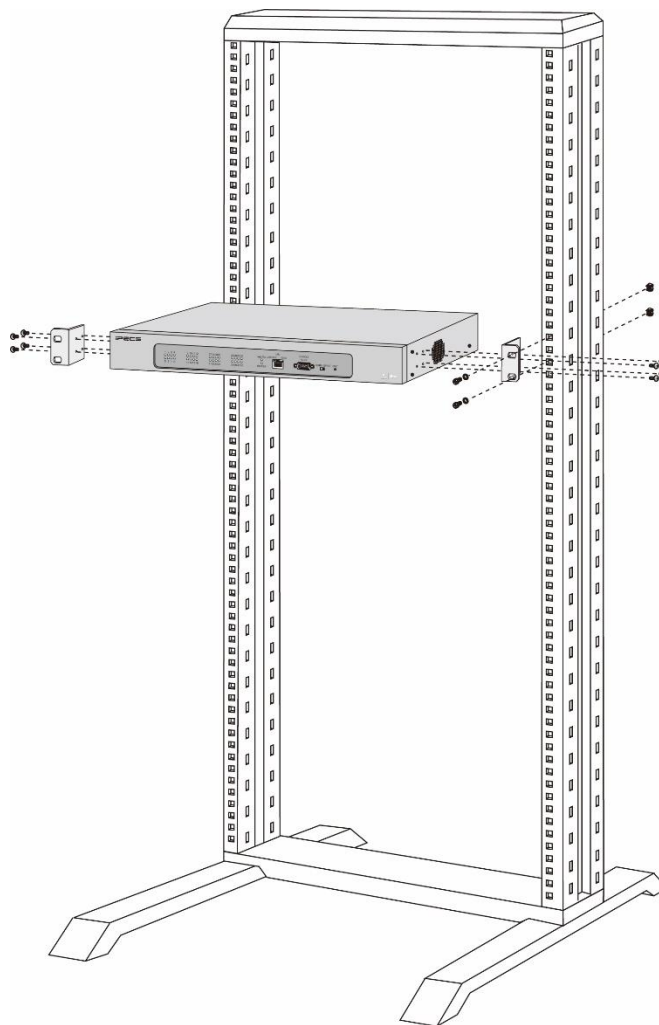

Figure 6.11-1 SLTM32 Rack Mounting Installation
- 1) Mount the left and right mounting brackets to the SLTM32 module using the eight (8) machine screws provided as shown in Figure 6.11-1.
- 2) Mount the Module in the 19" rack with the four (4) machine screws, nuts and washers as shown in Figure 6.11-1.